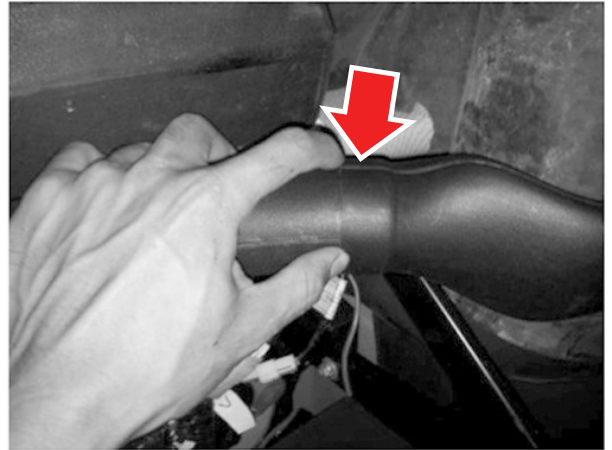

Figure 21-3
3. Slide the hose clamps loosely at the duct connection locations (see Figure 21-3).